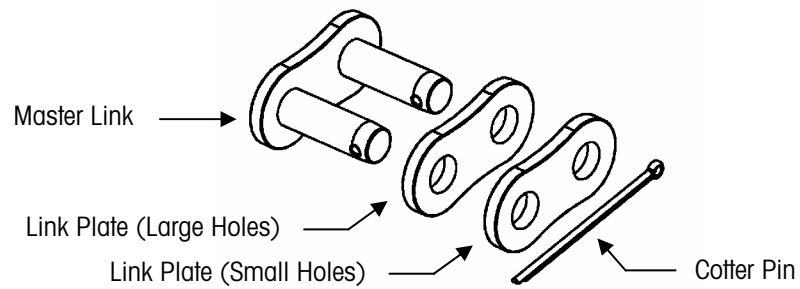

Figure 6-6: Master Link Assembly
14. Remove the cotter pin from the master link that secures the load cell to the chain mount (See Figure 6-6). Take apart the master link, using a C-clamp or similar device to press the master link through the link plates. Do not use a hammer or other tool to strike the master link. It could damage the link.
1. Use a master link to connect the new load cell to the chain. The chain should be connected to the top of the load cell (the end opposite the load cell cable). Assemble the master link as shown in Figure 6-6. Using a C-clamp or similar device, press the master link assembly together just enough so that you can insert the cotter pin in the holes. If the link is too tight, it can bind against the load cell and chain.
2. Use a master link to connect the other end of the load cell to the chain mount. Make sure that the load cell cable is facing away from the three bolt holes in the chain mount. Assemble the master link as shown in Figure 6-6. Using a C-clamp or similar device, press the master link assembly together just enough so that you can insert the cotter pin in the holes. If the link is too tight, it can bind against the load cell and chain mount.